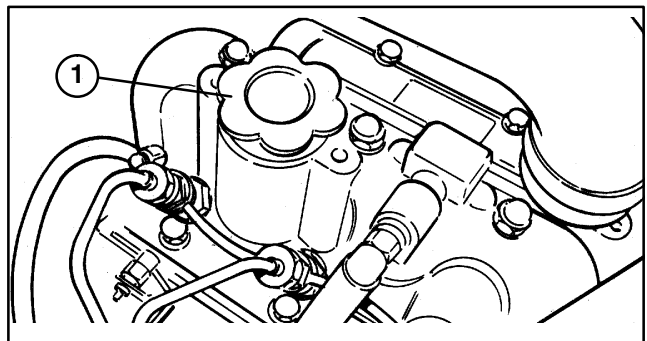

Figure 12
3. If oil level is low, remove oil fill cap (Fig. 12) and gradually add small quantities of oil, checking level frequently, until level reaches FULL mark on dipstick.